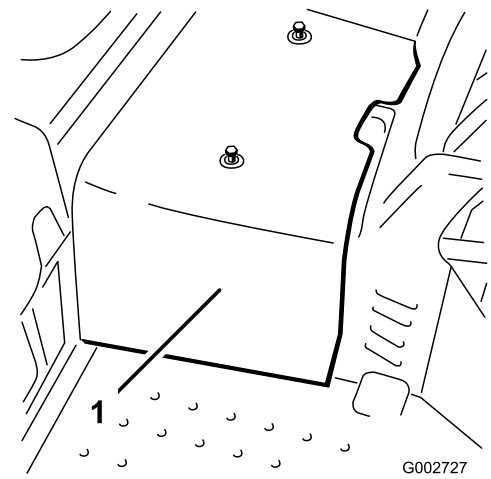

Figure 35
2. Loosen the 2 screws securing the center shroud to the machine and remove the shroud (Figure 35).